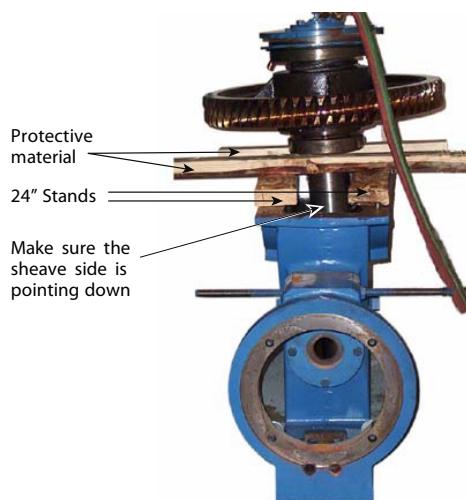

Figure 52 - Output Shaft on Work Stands
- With the assembly resting on the stands, remove the output shaft sling, and set the sheave side of the output shaft pointing down. See Figure 52.